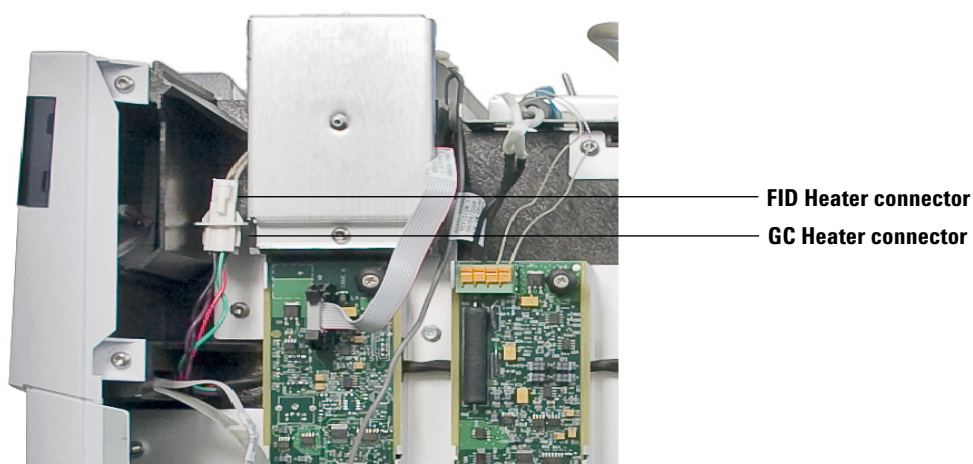

Figure 3 Connecting the FID heater cable
- 2 Before mounting the detector, connect the FID heater cable to the GC heater connector located in the right side of the GC directly adjacent to the detector cutout. (See Figure 3.)